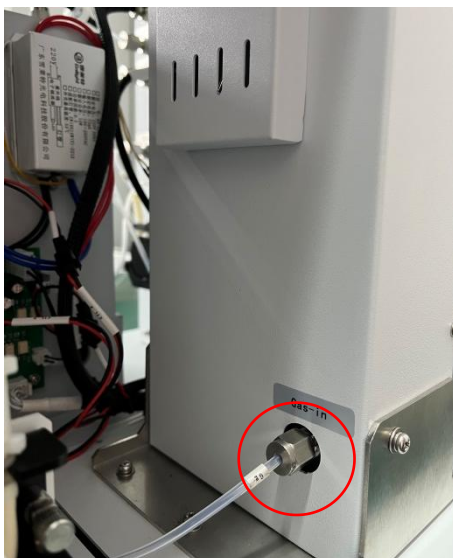

Fig.6.27
1) Open the door panel on the right side of the host, unscrew the inlet stainless steel nut (Fig. 6.27) of the detector (Fig. 3.3) and remove the nut.